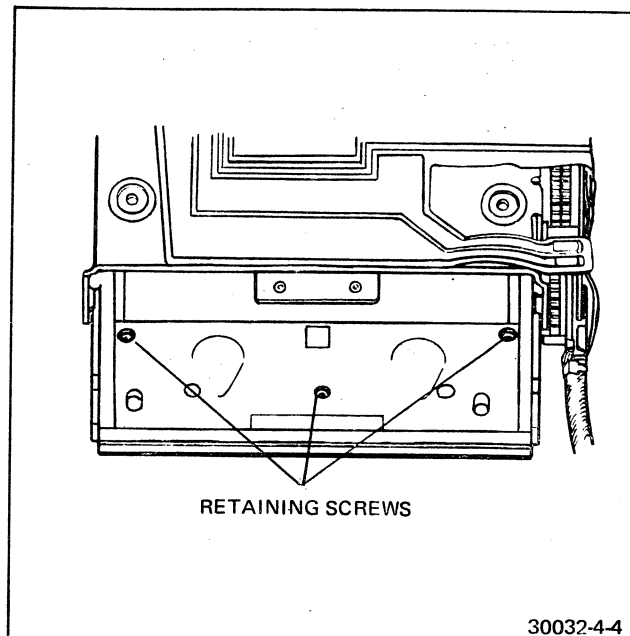

FIGURE 4-4 BOOT RETAINING SCREWS
8. Remove the inner-frame-to-boot-retainer screws (see Figure 4-4).